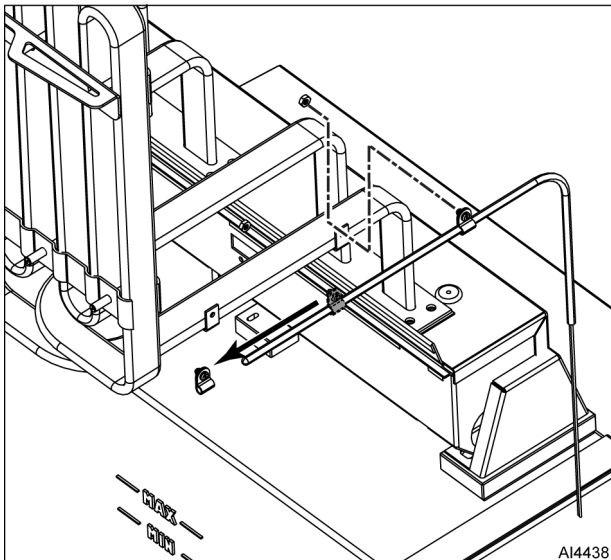

Fig. 18
4. Remove clamps / temperature probe (Fig. 18) from heating element.